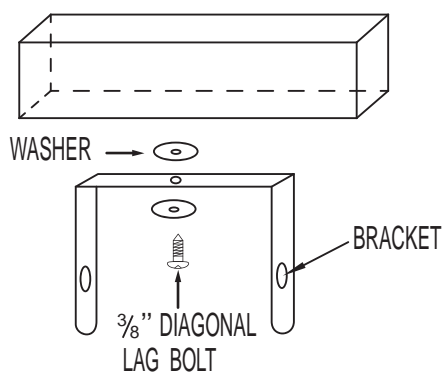

Figure 4a-single-Screw Mounting
Refer to Figures 4a and 4b.
NOTE: If you want to swivel the heater either to the right or left adding a washer to both sides of the bracket is recommended. A longer lag bolt may be required to properly secure the unit. See Figure 4a.
1. To turn the unit when it has been installed with a single lag bolt (as shown in figure 4a), simply turn the entire heater as needed. The unit cannot be turned horizontally if it has been installed with 2 lag bolts.